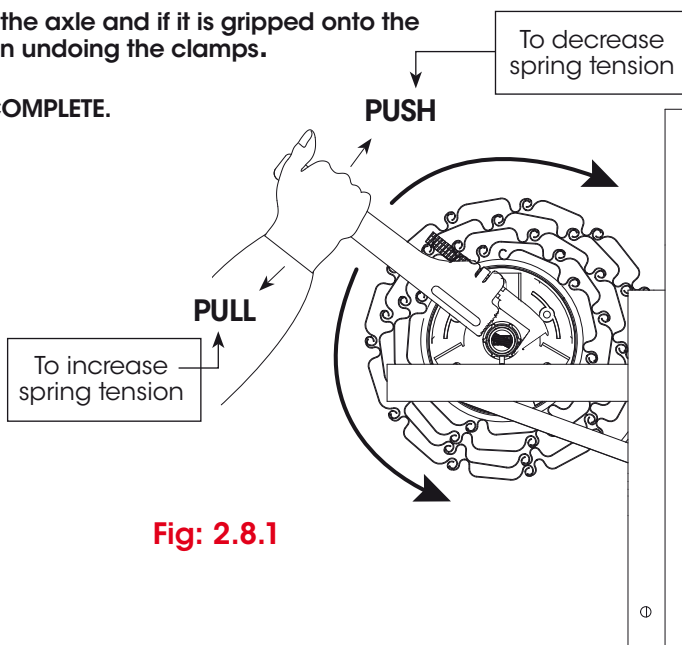

Fig: 2.8.1
- Rotate the axle in the required direction (**Fig 2.8.1**).